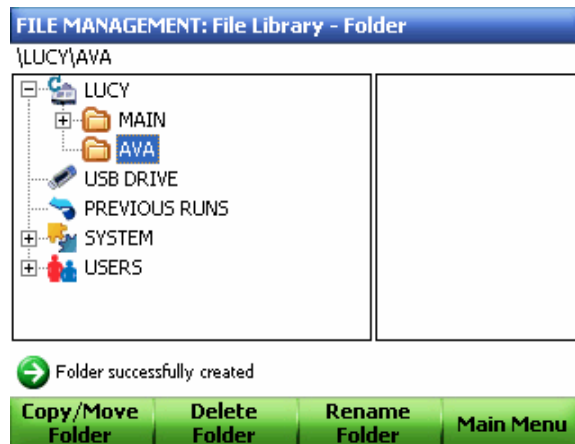

Figure 80. The newly created folder AVA appears under the LUCY thermal cyclers.
4. Confirm that the folder was successfully created (Figure 80).